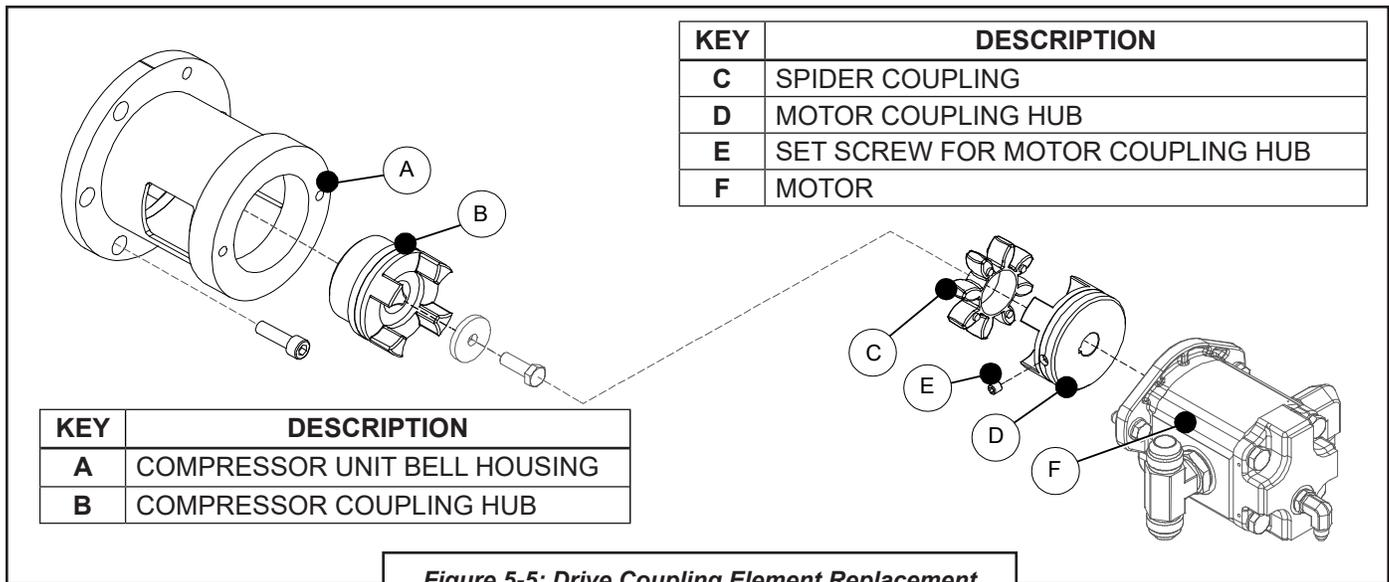

Figure 5-5: Drive Coupling Element Replacement
Refer to **Figure 5-5**.
1. Install and mate coupling hub bore with driving shaft. Hub should be installed with the hub body toward the driving unit (see **Figure 5-5** for typical mounting component arrangement).